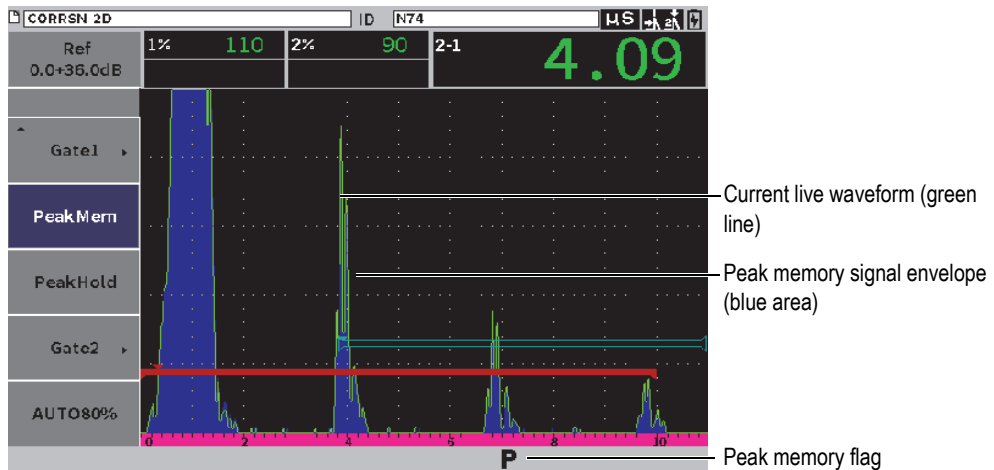

Figure 7-11 Peak memory signal envelope example
The peak memory function enables on-screen capture and storage in memory of the amplitude of each A-scan acquisition. When you scan the transducer over a reflector, the peak memory signal envelope (echo dynamic as a function of transducer position) is retained on the screen in blue (see Figure 7-11 on page 105). The display updates whenever a signal of greater amplitude is acquired. In addition, the current, live waveform is displayed at the appropriate place within the signal envelope.
1. With a gate active and the sidebar menu displayed, turn the adjustment knob to select the **PeakMem** button (see Figure 7-11 on page 105).